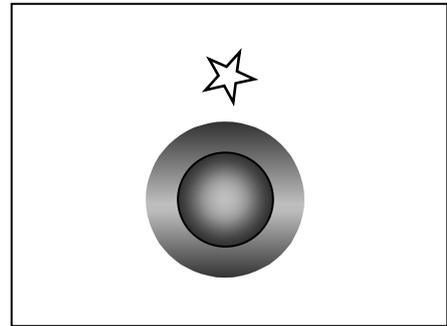

fig. 12
- **At the same time, push the electronic ignition knob** (see fig 12). Keep it pushed until the gas ignites (1 spark / second).